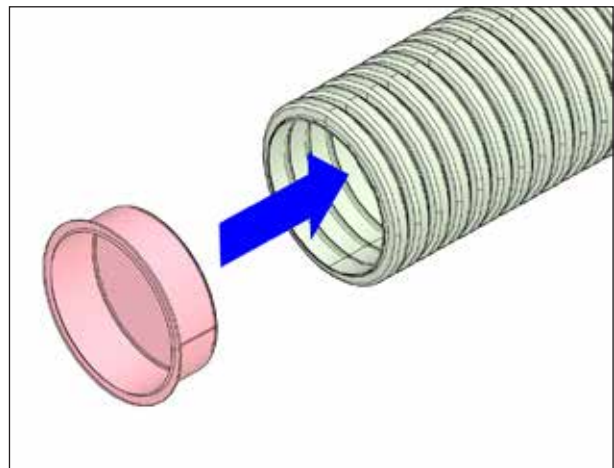
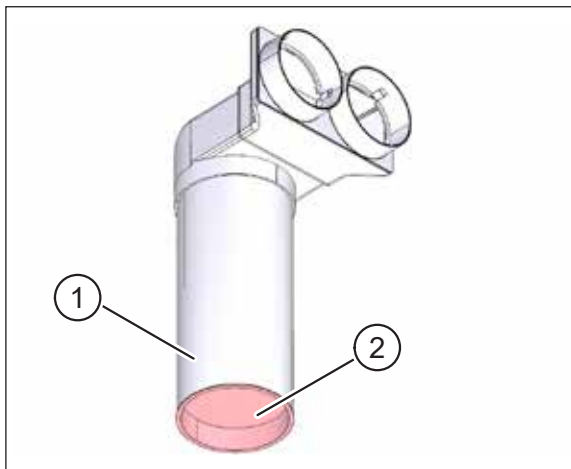

Fig. 12: Example for closing off an opening in the flexible pipe
Fig. 14: Inserting the plastic ceiling box
- ▶ During the construction phase, close off all unused openings in the components of the flexible pipe system to prevent the ingress of dirt (see, for example, Fig. 12 or Fig. 14 and Fig. 15 on page 14).
- ▶ Cut the ventilation pipe (item 1 in Fig. 14 or Fig. 15) for the ceiling box to length as shown in the planning documents. Be careful to provide the minimum bedding depth (see Table 1 on page 4).
- ▶ Close off the opening in the ventilation pipe with the red sealing cap (item 2 in Fig. 14 or Fig. 15) to prevent the ingress of dirt.